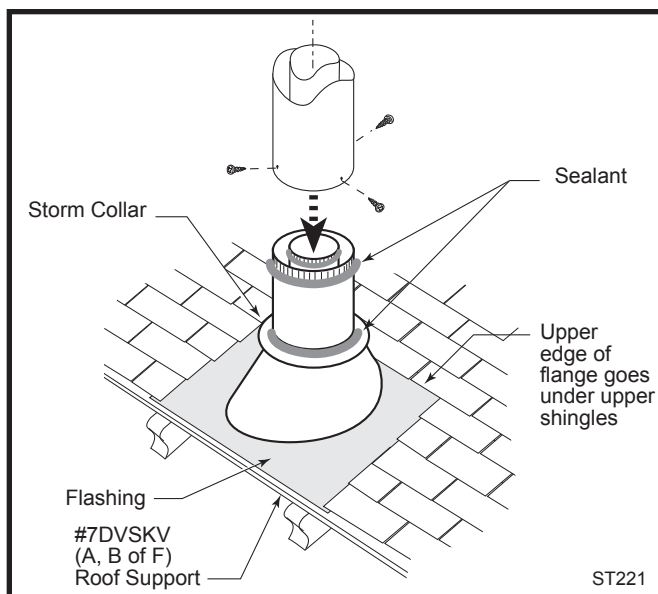

Fig. 31 Roof support and flashing.
7. Install the appropriate roof support and flashing, making certain that the upper flange of the flashing base is below the shingles. (Fig. 31)
9. Install the storm collar and seal around the joints. (Fig. 31)